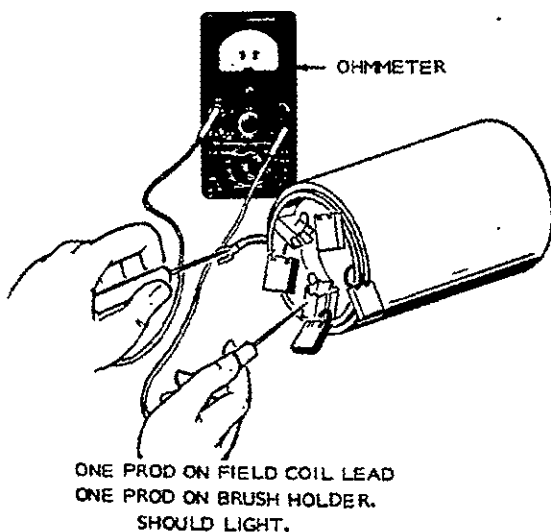

FIGURE 53. TEST FOR OPEN FIELD COIL
**Testing Field Coils for Open Circuit:** Place one prod on the connector and the other on a clean spot on the brushholder, Figure 53. If continuity is good, the field coil is okay. Check all brushholders in the same manner.